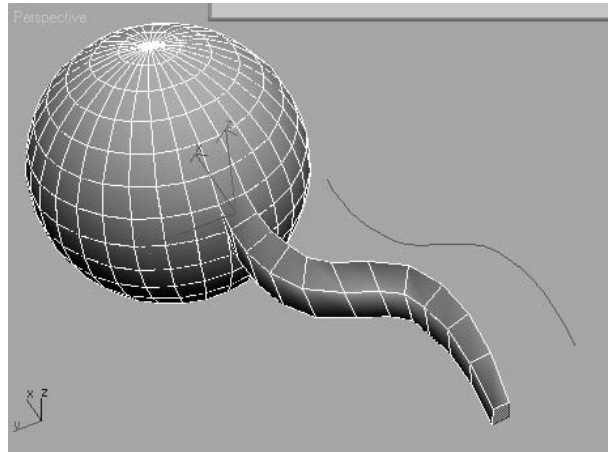

Figure 4.41
5. Start by adding more segments; 15 to 20 should give you a good-looking extrusion. The extrusion in Figure 4.41 is the result of 11 segments,  $-0.5$  taper amount, and 2.0 taper curve.